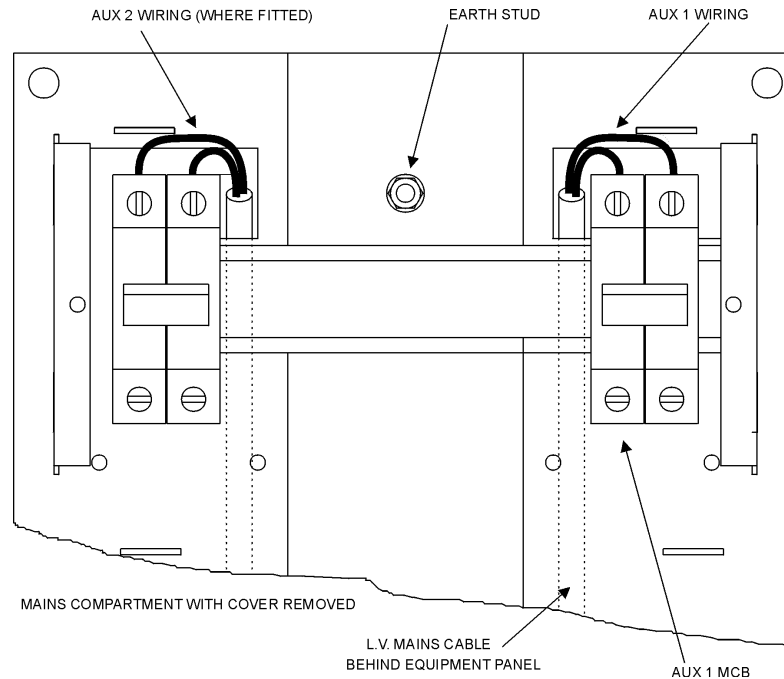

Figure 24: LV Auxiliary Supply connection
- Earth wire and lugs for the earthing scheme and parts for LV mains auxiliary power connection. See Figure 26 (page 73), Figure 24 (page 70), and "LV Auxiliary Power from Mains" - page 71 .
10. For LV mains supply run auxiliary wiring as shown in Figure 27 (page 74). See "LV Auxiliary Power from Mains" - page 71 . Make connection inside control cubicle as shown in See Figure 24 (page 70). **Make sure the LV mains cable is run behind the equipment panel.**